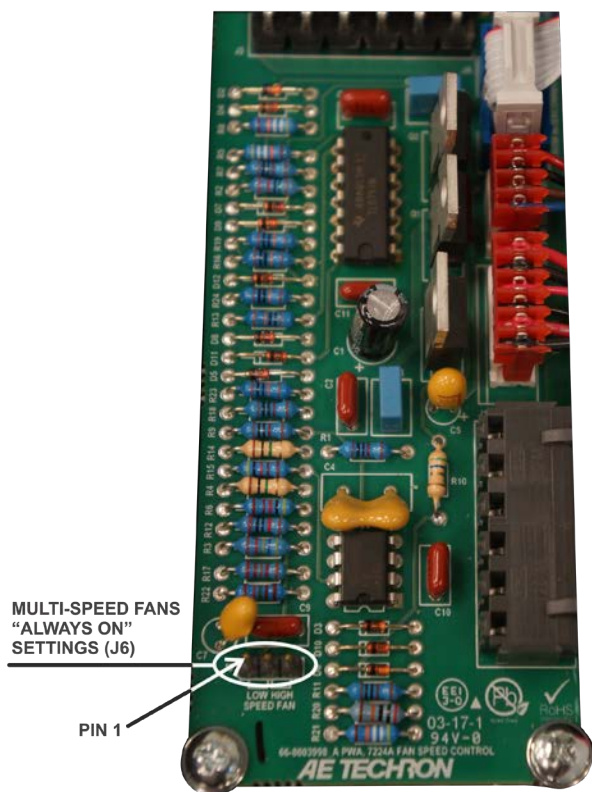

Figure 5.6 – Fan-Control Board Jumper Location
Refer to **Figure 5.6** for Fan-Control board jumper locations.
7. Locate Jumper **J6** on the Fan-Control Board (see **Figure 5.6**).